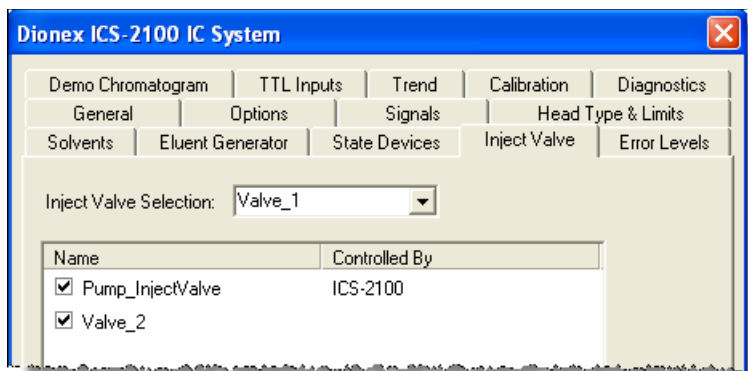

Figure 22. Inject Valve Properties: Inject Valve Controlled by the IC System
- If the timebase will include another model of autosampler (or no autosampler), the **Controlled By** setting must be **ICS-2100** (see Figure 22).